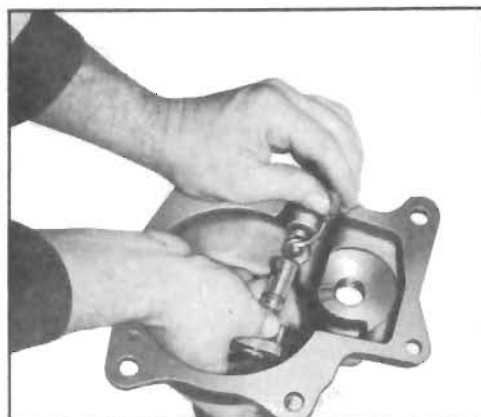

Figure 4-54—Installing Reverse
5. Place detent ball on spring and, holding ball down with a suitable tool (see Figure 4-54), push the shifter shaft into place and turn; the ball drops into place in detent on shaft detent plate.